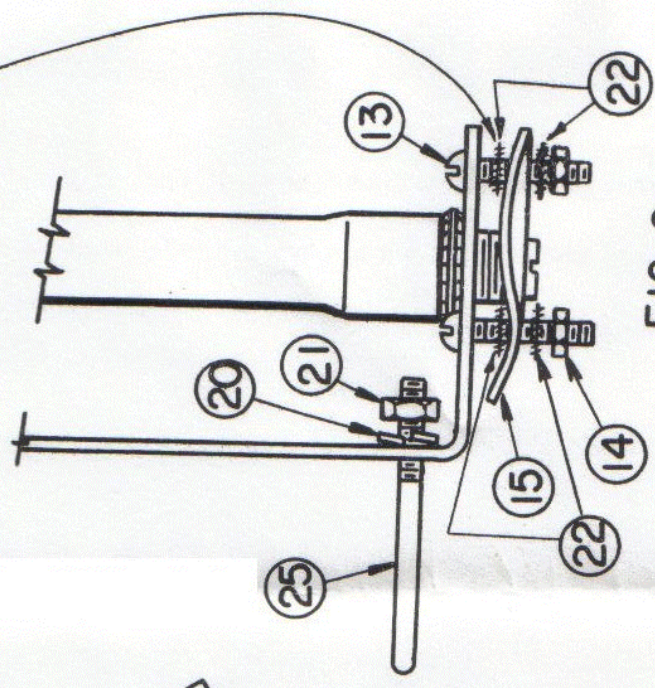

FIG. 2
2. Assemble Plate Clamp for radials to underside of bracket as shown in Figure 2. Also add the "U" bolts.